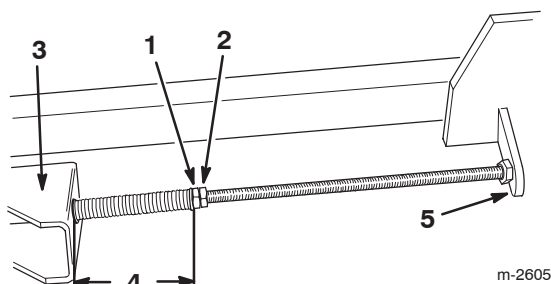

Figure 41
- Loosen the jam nuts on the adjusting shafts to relieve the tension on the drive belt, then remove the worn drive belt from the pulleys (Fig. 41).
- Install the replacement drive belt around the drive pulley on the traction unit and the spindle pulley (Fig. 41).
- Install the belt guide on the mower with the two flange-head bolts. Ensure that the formed loops face toward the rear of the mower (Fig. 41).
- Tighten the front jam nut on each adjusting shaft until the springs are completely compressed, approximately 4-3/4 inch (12 cm) measured between the washer and the bushing, then back the front jam nuts off one turn (Fig. 41).
Important Do not overtighten the jam nuts after the springs are fully compressed, as this can damage the drive belt (Fig. 41).
- Tighten the rear jam nuts (Fig. 41).